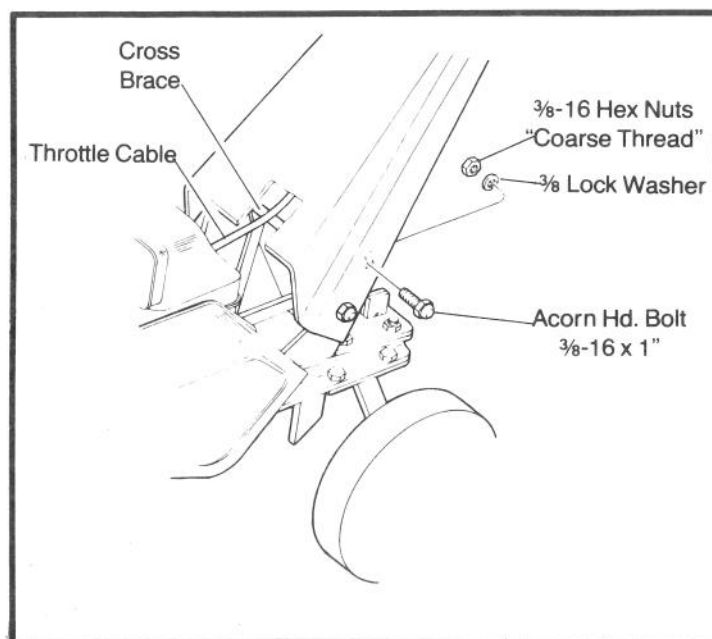
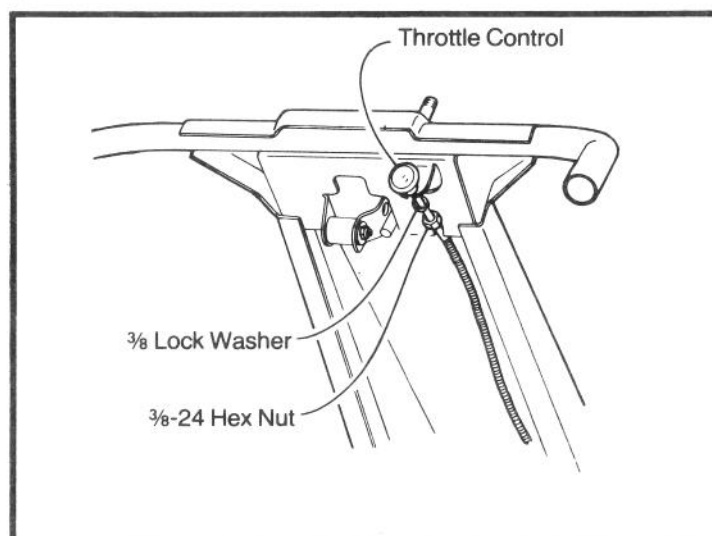

FIGURE 1
FIGURE 2
2. Attach the handle to the handle brackets, Fig. 1. Position handle over brackets and secure using four (4): $\frac{3}{8}$ -16 x 1" acorn hd. bolts*, $\frac{3}{8}$ lock washers* and $\frac{3}{8}$ -16 hex nut*. **Be sure handle is pushed all the way up before tightening the bolts.**
3. Attach the throttle control to the back side of handle, Fig. 2. (**NOTE:** Route cable through opening above cross brace, Fig. 1.)
Slide the threaded part of control into slot on the back of handle, Fig. 2. Slide the $\frac{3}{8}$ lock washer and $\frac{3}{8}$ -24 hex nut up the control cable and secure control to handle by tightening the hex nut to the control from underside of the slot. **NOTE:** Lock washer and nut (Fig. 2) are placed on cable at factory.